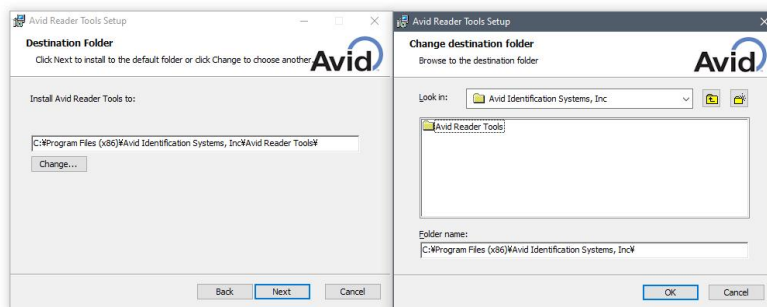

Figure 13: Choosing the software installation location
3. The default installation path is "C:\Avid Identification Systems, Inc\Avid Reader Tools\". To change the installation path, select "Change" to open up the folder selection dialog shown in Figure 13; otherwise, select "Next" to continue the installation process.